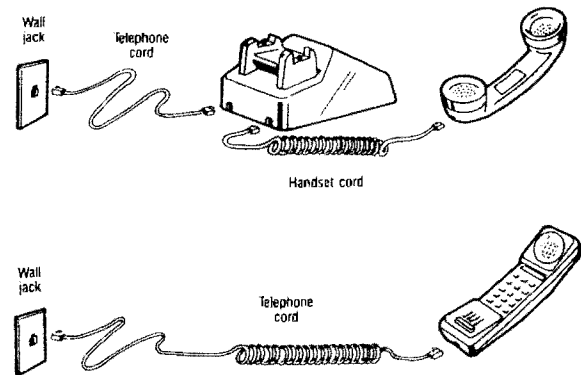

Fig. 3. Telephone Cord and Handset Cord.
CORD TEST (Refer to Figs. 3. and 4.)
1. To test the telephone cord (see Fig. 3. for example of cord type) for continuity or shorts, plug both ends of the cord into the **PHONE TEST JACKS** and make sure that the **DIAL MODE/CONT.** button is engaged. If the **SINGLE LINE** indicator lights, the cord is good for normal telephone operation. If the **AUX LINE** indicator **also** lights, the cord is good for lighted telephone operation. The **SINGLE LINE** indicator shows the condition of the two wires in the cord used for dialing, ringing, and conversation. The **AUX LINE** indicator shows the condition of the two wires in the cord that bring power to the night light in a telephone. If the indicators fail to light, the cord is defective. Gently bend and squeeze the cord to check for intermittent continuity or shorts. If the indicator(s) go out or flicker, the cord should be replaced.